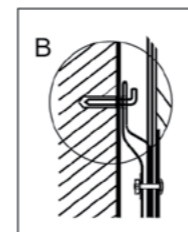

Fig. 8
2. After you chose the proper place to install the water heater, determine points for holes for expansion hook bolts (to be determined in accordance with the data sheet for the appliance you chose). Drill two holes of the corresponding depth in the wall using a drill, dimensionally fit for expansion bolts, enclosed with the water heater, insert bolts, turn the hook upwards, securely tighten nuts and then hang the electric water heater on these hooks (see Fig. 8).